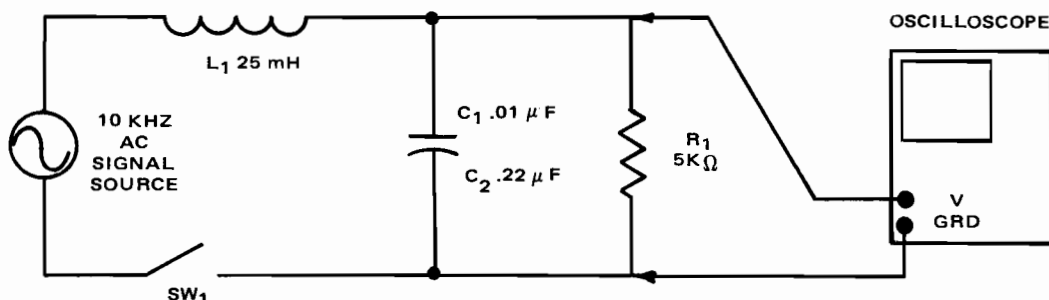

Fig. 11-5-1
1. Construct low-pass filter circuit shown in Fig. 11-5-1. Use $0.01 \mu\text{F}$ capacitor (C_1) in circuit first.
1. What causes the low-pass filter circuit of Fig. 11-5-1 to reach a high frequency cutoff point?